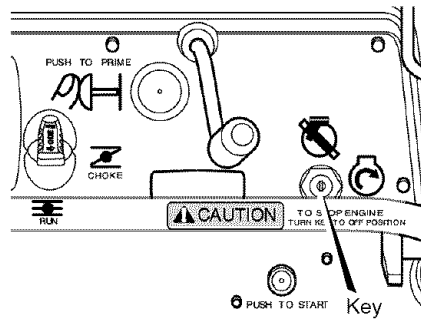
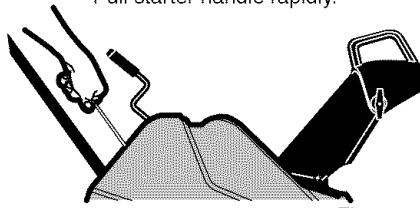

Figure 13
Figure 14
5. (**Electric Start**) Turn the **key** to the **START** position (see Figure 13). To prolong the life of the starter, do not crank for more than 5 seconds at a time. Wait one minute between starts to allow the starter motor to cool.
6. (**Recoil Start**) Turn the **key** to the **ON** position (see Figure 13). Slowly pull the **recoil starter handle** until resistance is felt and then pull rapidly to start the engine (see Figure 14). Do not allow the **recoil**